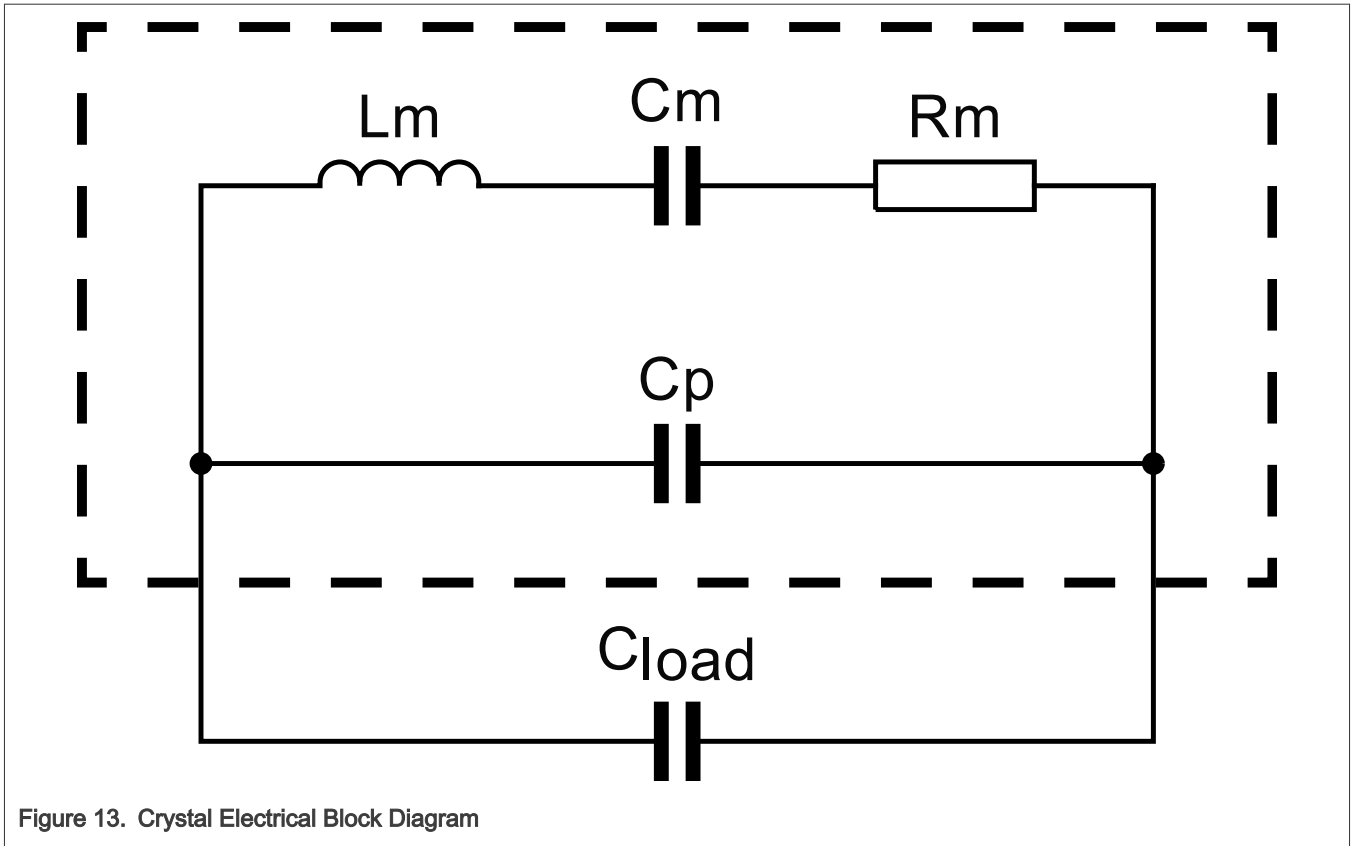

Figure 13. Crystal Electrical Block Diagram
**Table 35. System Oscillator Crystal Specifications. Refer to Figure 13 for additional details of the crystal parameters**